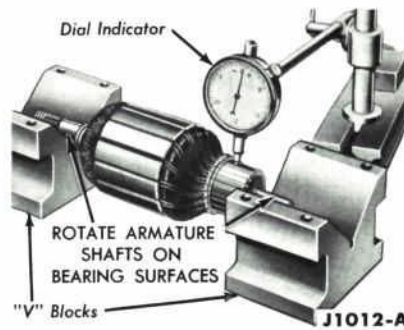

FIG. 21—Commutator Runout Check
5. Check the commutator for run-out and uneven or scored surfaces (Fig. 21). If the commutator is more than 0.002 inch out-of-round or uneven, turn down the commutator and undercut the mica if necessary. The armature must be replaced if the commutator is less than 1.540 inches in diameter.